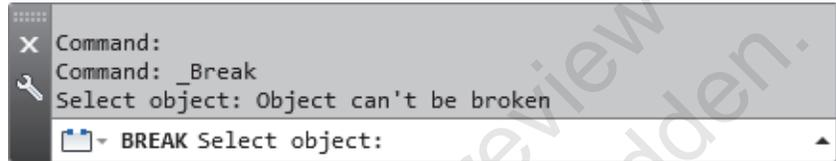

Figure 1–51
- Select the beam. In the Command Line, note that the object cannot be broken, as shown in Figure 1–51. Press <Esc>.